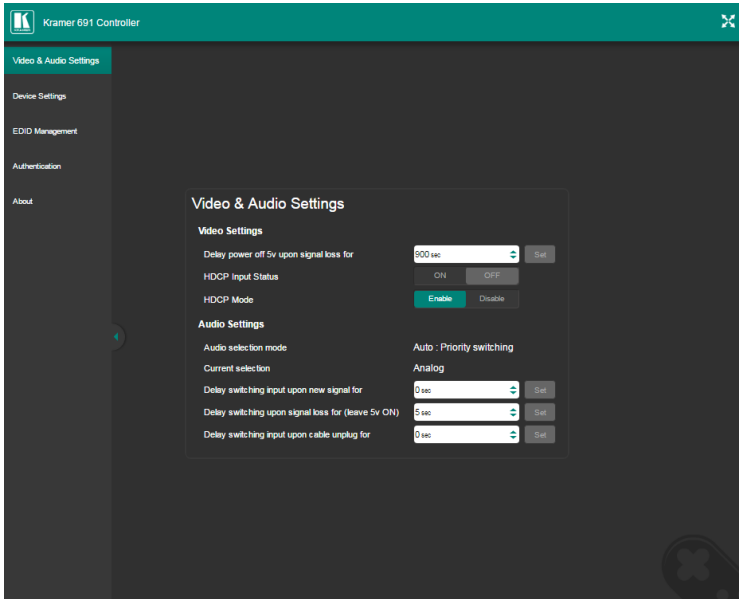

Figure 16: Video & Audio Settings Page
1. In the Navigation pane, click **Video & Audio Settings**. The Video & Audio Settings page appears (see Figure 16).